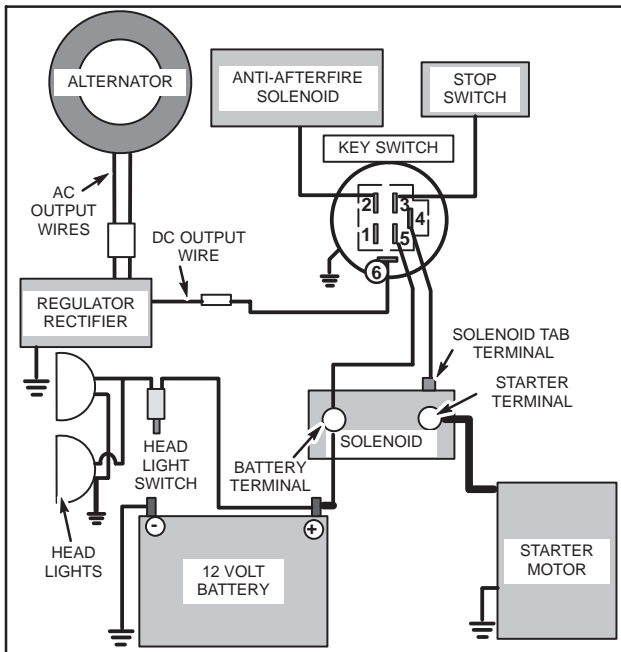

Fig. 27 – Typical 12 V Wiring Diagram
1. Before installing battery, connect all equipment to be operated. Fig. 27.